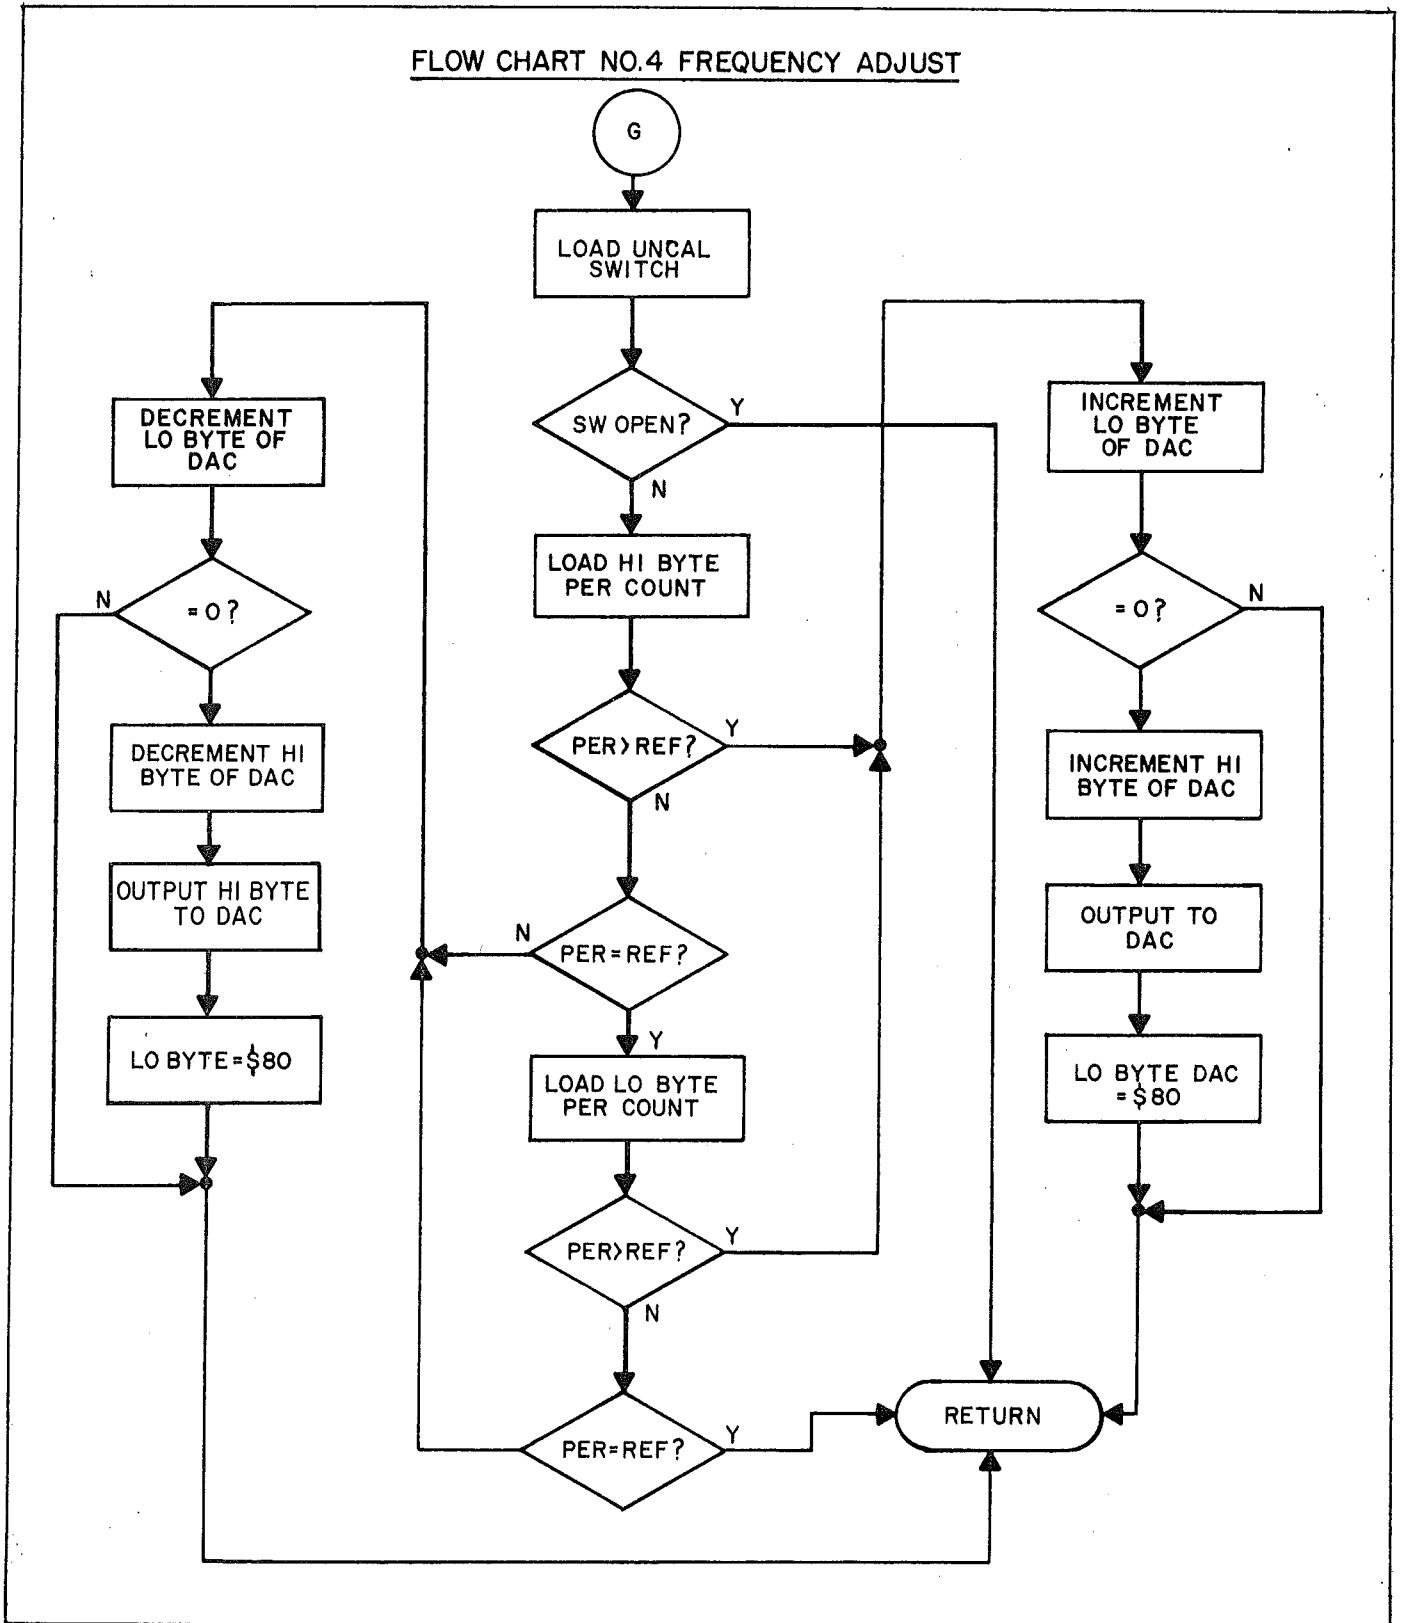

FIGURE 4-10 FLOW CHART FREQUENCY ADJUST ROUTINE
4.8.9 Frequency Adjust Routine (flow chart Figure 4-10)